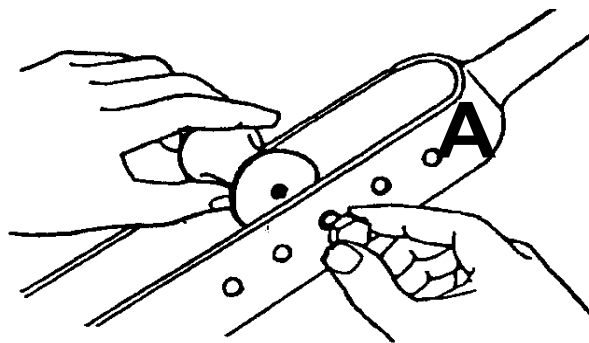

Figure 10.
- Insert the grooved roller in the correct position for size of conduit, see Figure 10.